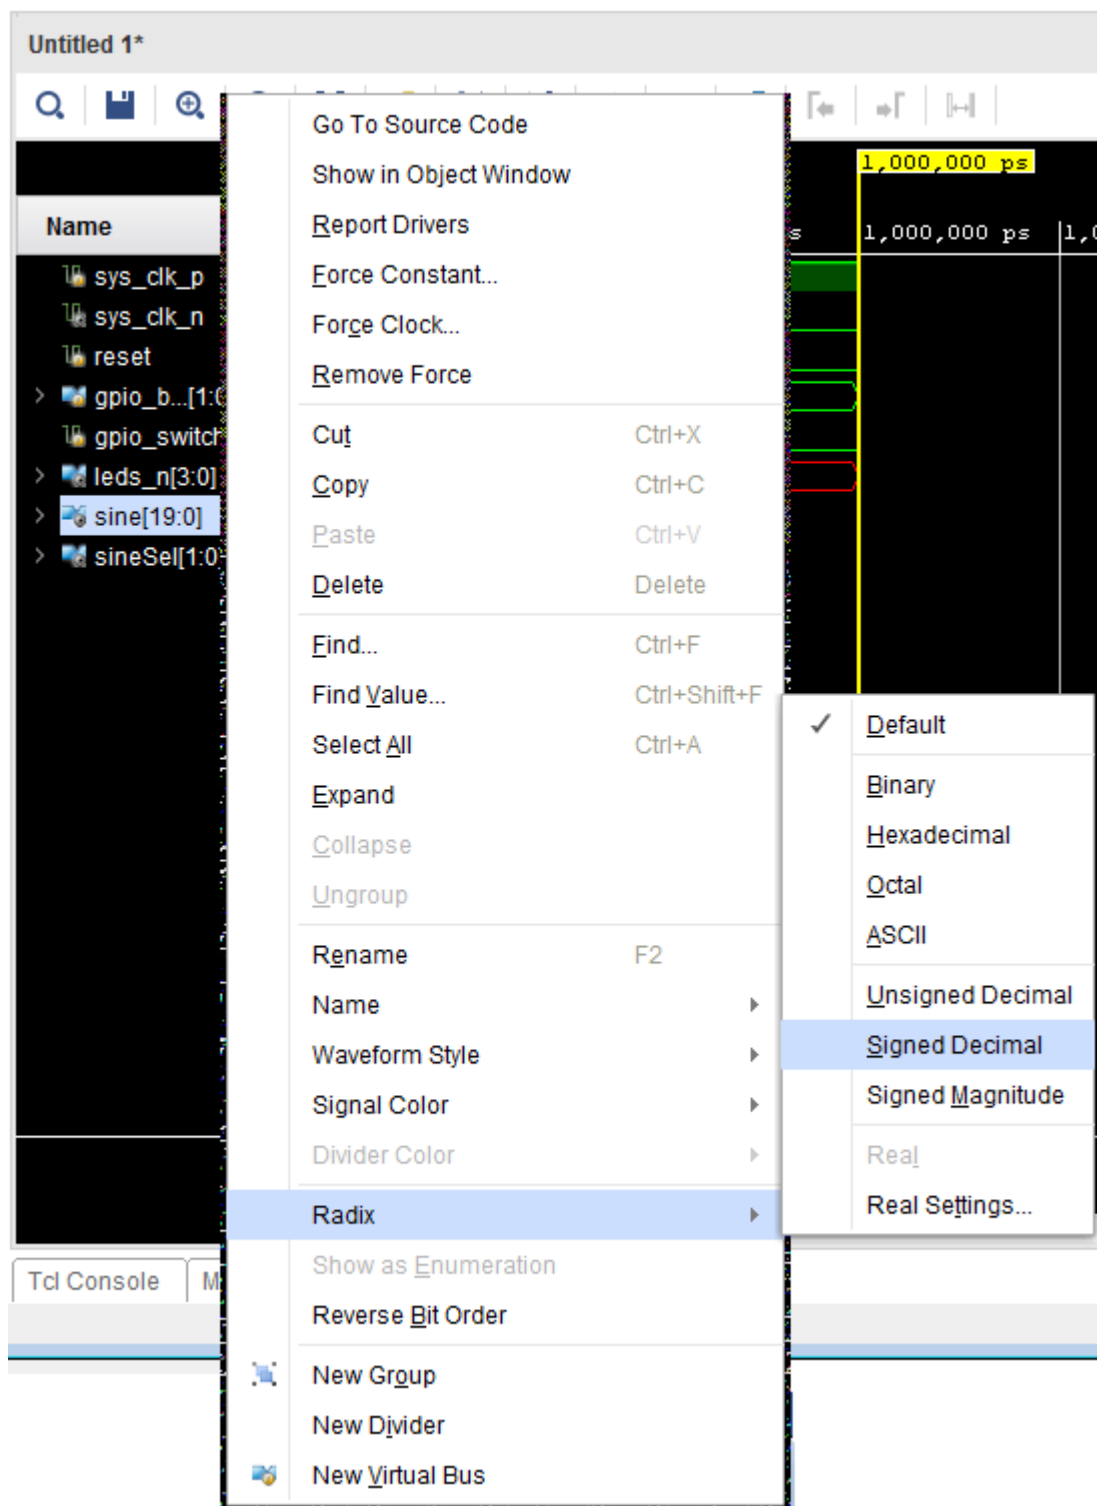

Figure 17: Enable Radix
3. Right click to open the popup menu again, and select **Radix > Signed Decimal** as shown in Figure 17.